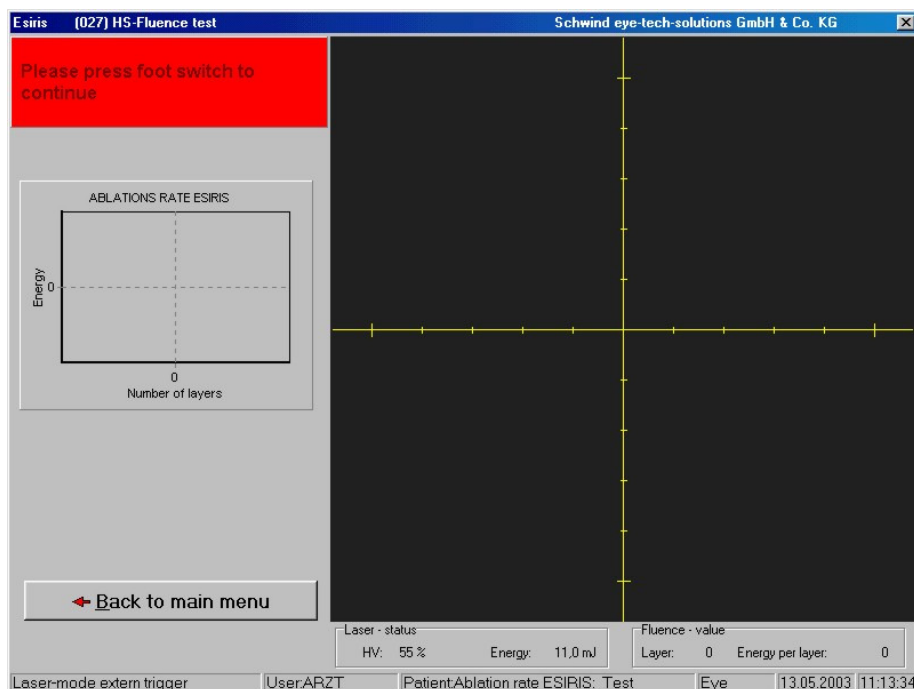

Figure 31: Start of fluence test
- (1) Place the HS-foil under the second, silver-coloured plate of the fluence detector.
- (2) Focus and centre the ablation height on the HS-foil using both position lasers.
- (3) Reduce the light in the room and switch off the illumination of the treatment area.
- (4) Push button **HS-Fluence Test** in the Main Menu and follow the messages on the monitor.
- (5) Check on the monitor that the adjusted position of the sensor is located in the centre of the camera picture (live photo).
- (6) Wait until message **"Press Foot Switch"** appears. The foot switch must be pressed down now and remain pressed until the system ends the test (see Figure 31: Start of fluence). The fluence test starts and ends automatically.
- (7) After completion of the Fluence Test a message appears that a Drift Test will be performed.
- (8) To avoid damages to the foil, it has to be carefully packed after the use.